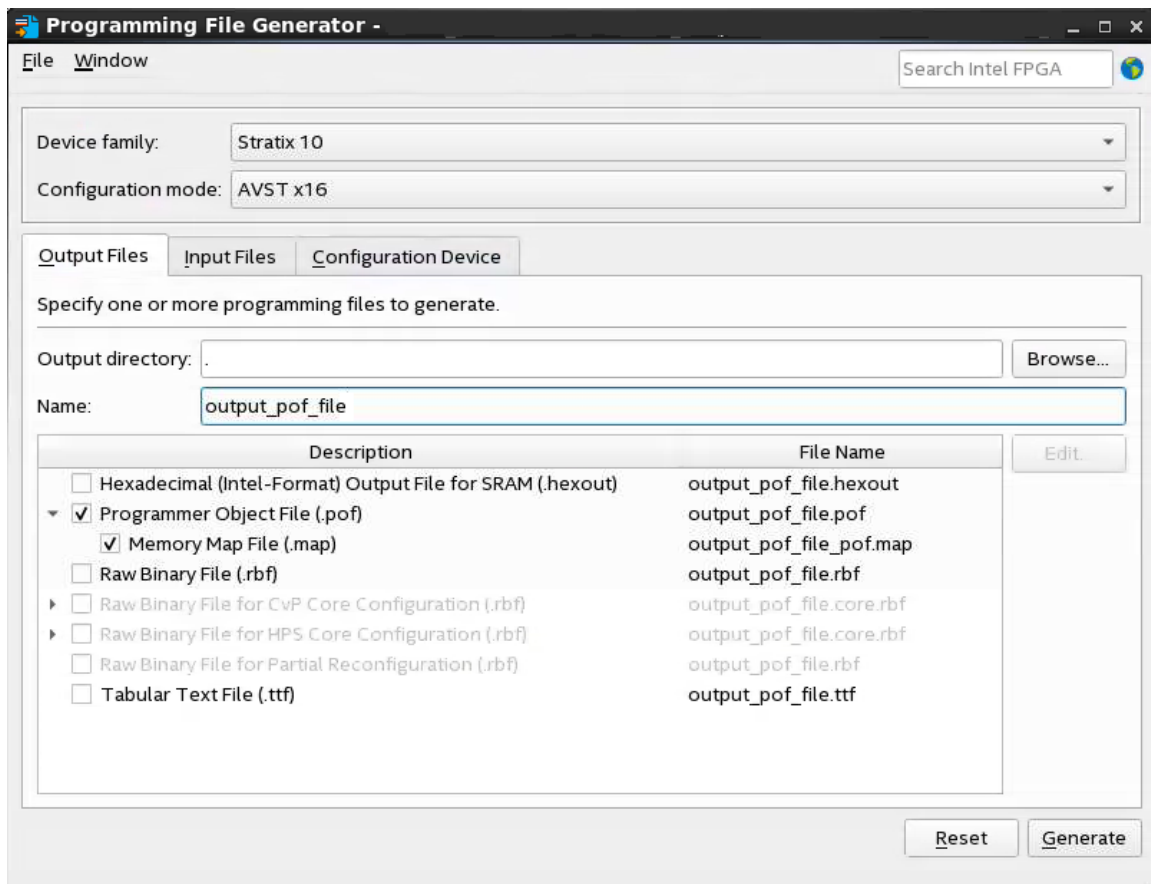

Figure 6: Output Files Setting in Programming File Generator
3. In the Output Files tab, choose your output directory and the output file name. Make sure to check Programmer Object File (.pof) box. The complete setup is shown in Figure 6.